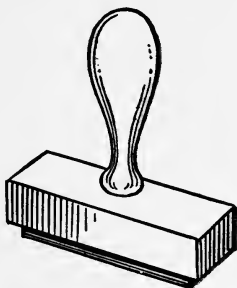

FIG. 77. THE RUBBER STAMP READY TO USE
A *rubber stamp* is type matter molded in rubber which is then mounted on a block with a handle as shown in Fig. 77. When the stamp is inked and then pressed on a smooth surface it leaves an impression on it.
**Mounting the Rubber.**—All that you need to do now is to trim off the edges of the rubber stamp with a pair of shears and mount it on a smooth block of wood having a handle as shown in Fig. 77.